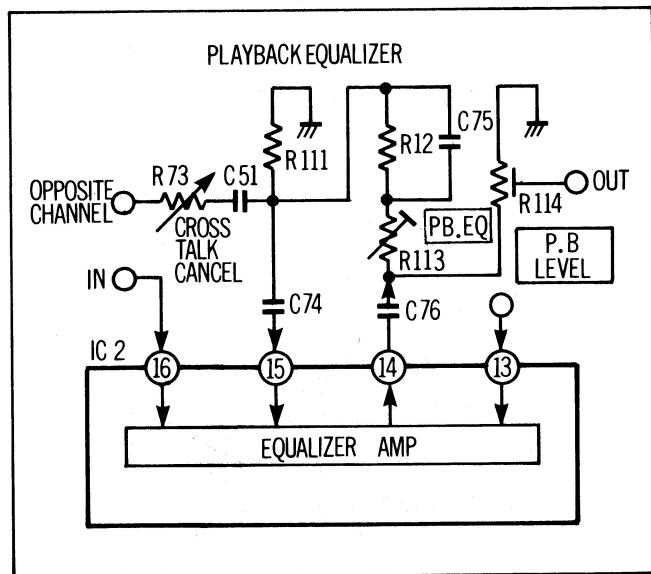

Figure 2-216
See Figure 2-216 and 217. The purpose of the playback equalizer is to compensate for the head characteristics and the record equalization curve. The overall effect (total characteristic) of the playback equalizer can be seen. The equalizer characteristic, determined by the frequency selective network of capacitors and resistors between Pins (14) and (15) of IC1 (IC2) has the inverse shape of the playback head response. The combined result is a nearly flat curve.